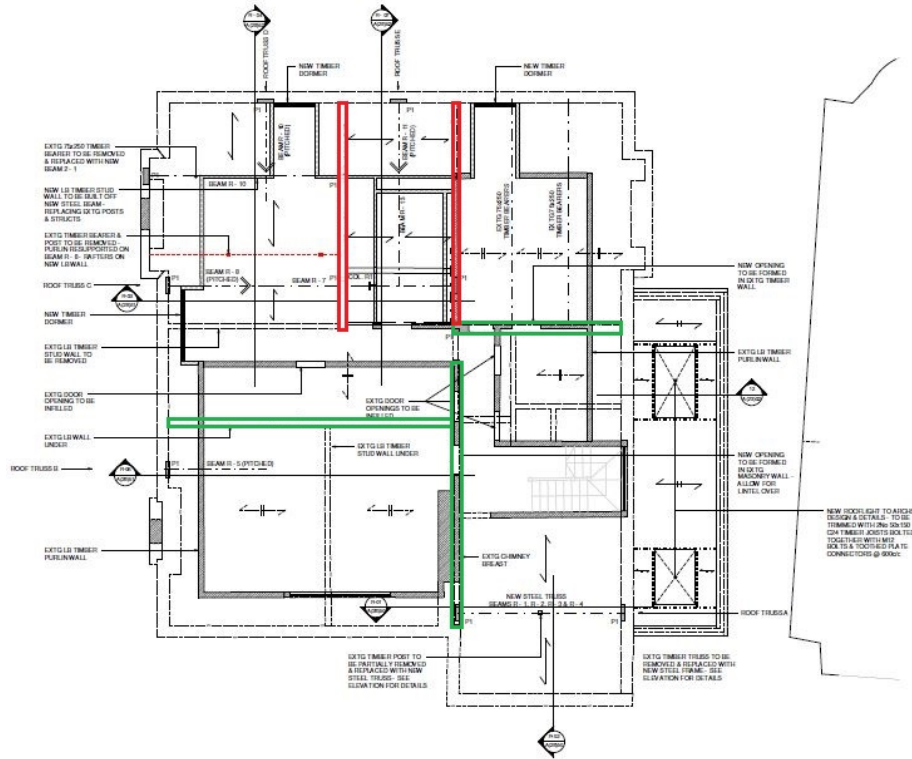
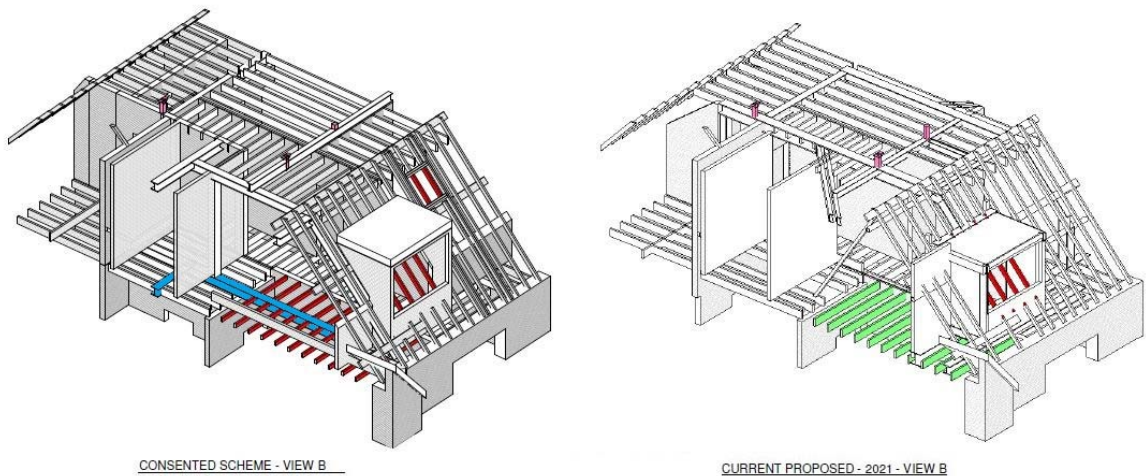

Figure 4 - 2nd Floor Load Bearing Walls Below
Figure 7 - 2nd Floor Joist Comparison
This development is twofold. Firstly, upon further inspection of the existing structure, it was considered necessary to change the loadpaths supporting the proposed roof structure to areas where the existing structure below is more robust. Please see figure 4 below. The red walls were required to take load from the frames above in the consented scheme but were considered to be insufficient upon further inspection on site. The proposal was therefore revised to take all loads down the green walls, which are solid 215mm thick masonry walls and are much more suitable for supporting the structure above.
The inclusion of these purple beams allows the removal of the blue beams highlighted in figure 7 below and ensures that no steelwork needs to be installed within the zone of the 2nd floor joists. This reduces the amount of existing building fabric to be removed, protects the 1st floor ceilings as the installation is less intrusive and takes the roof load to the robust green walls shown in figure 4. The joists shown in green in figure 7 show the existing fabric that can now be retained due to the inclusion of the purple beams.
- Orange frame remains as original intent but re-positioned to sit on the line of solid masonry wall below (see figure 4). New dormer is framed to support the frame. This removes the need to remove 2nd floor joists and disturb the ceiling below.
- New purple 2nd floor beams introduced to avoid the need to remove 2nd floor joists and disturb the ceiling below (see figure 7). They also take the roof load to the solid masonry walls below.